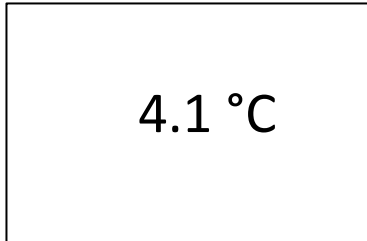

Figure 13: xFridge Temperature Display
- a) Displays Control Temperature, as illustrated in Figure 13.